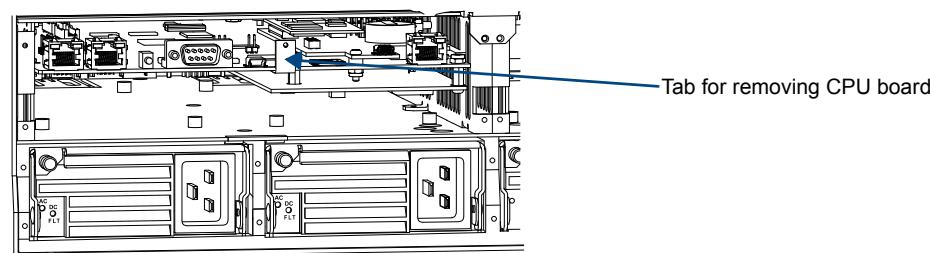

FIG. 134 Use tab to pull CPU board straight out
5. Use the tab indicated in FIG. 134 to pull the CPU board straight out of the enclosure.